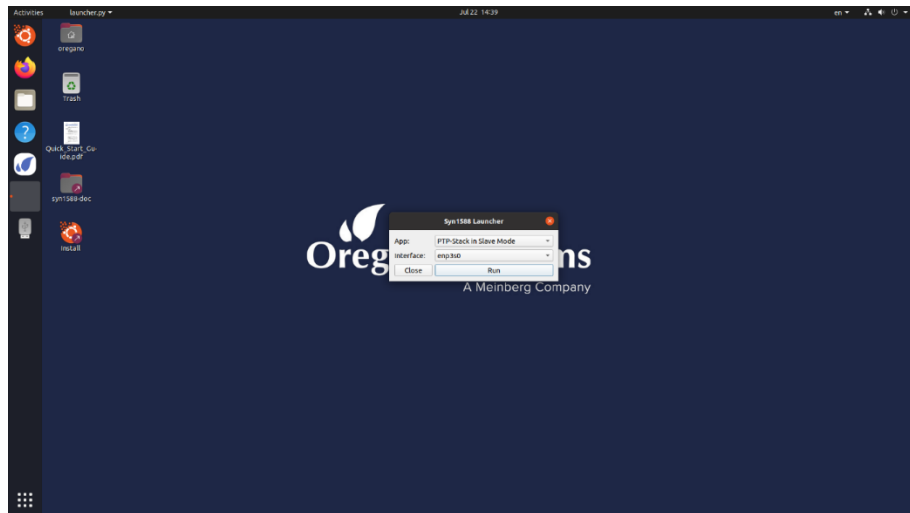

Figure 9 Select the desired interface
3. Select the desired interface to connect with the syn1588® PTP Stack (Figure 9) Note that this drop-down menu will only list syn1588® NIC cards!